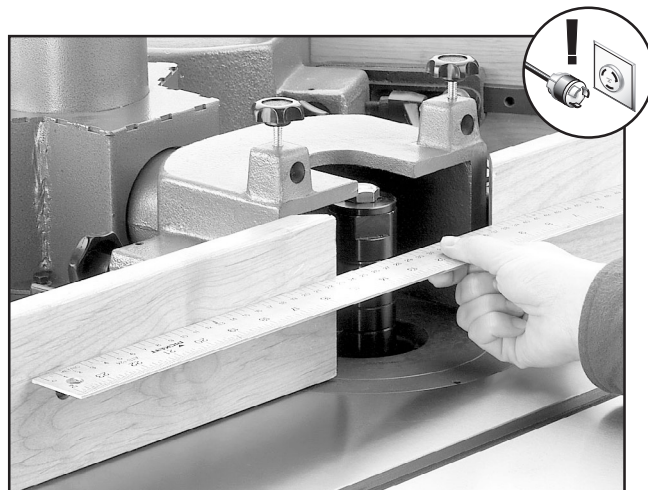

Figure 55. Checking fence alignment.
- Move the fence and guard assembly forward so that you can position a straightedge along both fence sides, as shown in **Figure 55**, and note any part of either fence board that is not up against the straightedge.